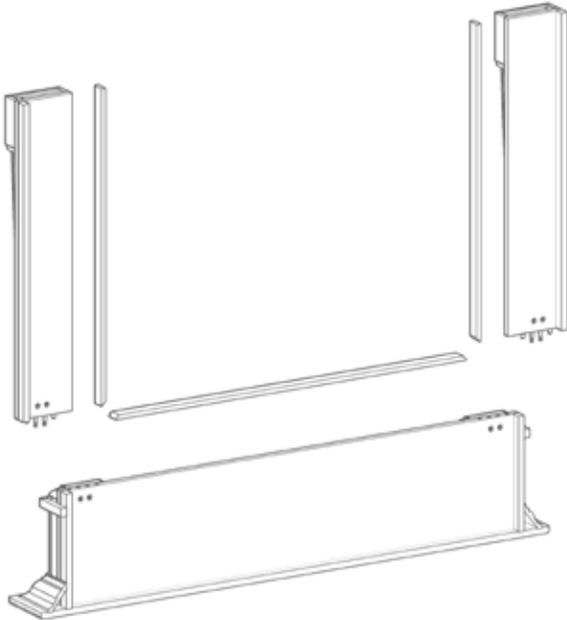

Figure 4
1. Position the top assembly (a) of mantel upside down on a flat, clean, non-abrasive surface. If scribe molding (d) was shipped attached to the leg and breast board, remove it before beginning assembly. Pry gently from the rear with a flat screwdriver. See Figure 4.